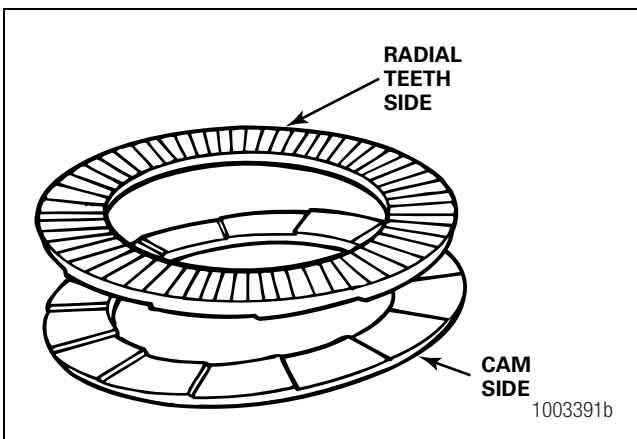

Figure 5.114
- **For fasteners with Nord-Lock® washers:** Install the washers with the radial teeth side facing the carrier. Figure 5.114.